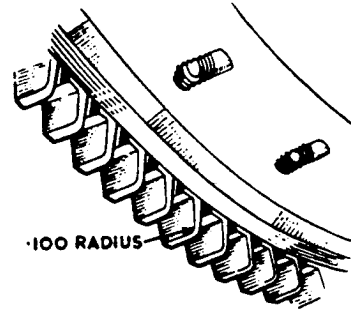

FIG.1.
- (ii) Remove the flywheel lower cover and radius the flywheel teeth with a medium file as shown in Fig.1.